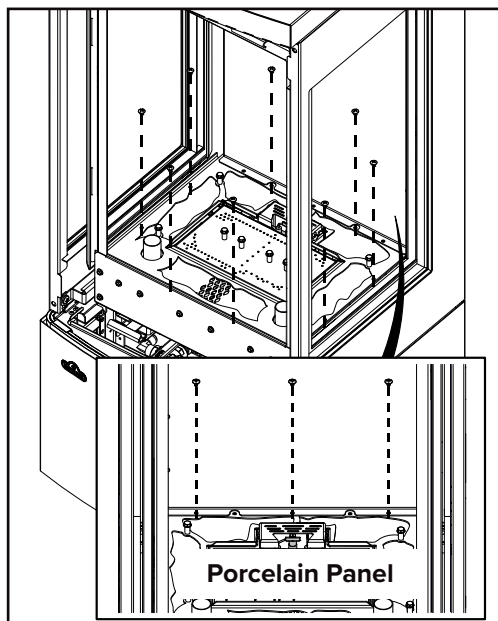

Fig. 1
- ☐ 2. Remove the logs, media, and decorative panels and set them aside. If porcelain panels are installed 3 screws will need to be removed (Fig. 1), save for reinstall.
- ☐ 3. Remove 8 screws securing the media tray (Fig. 1). Save for reinstall.